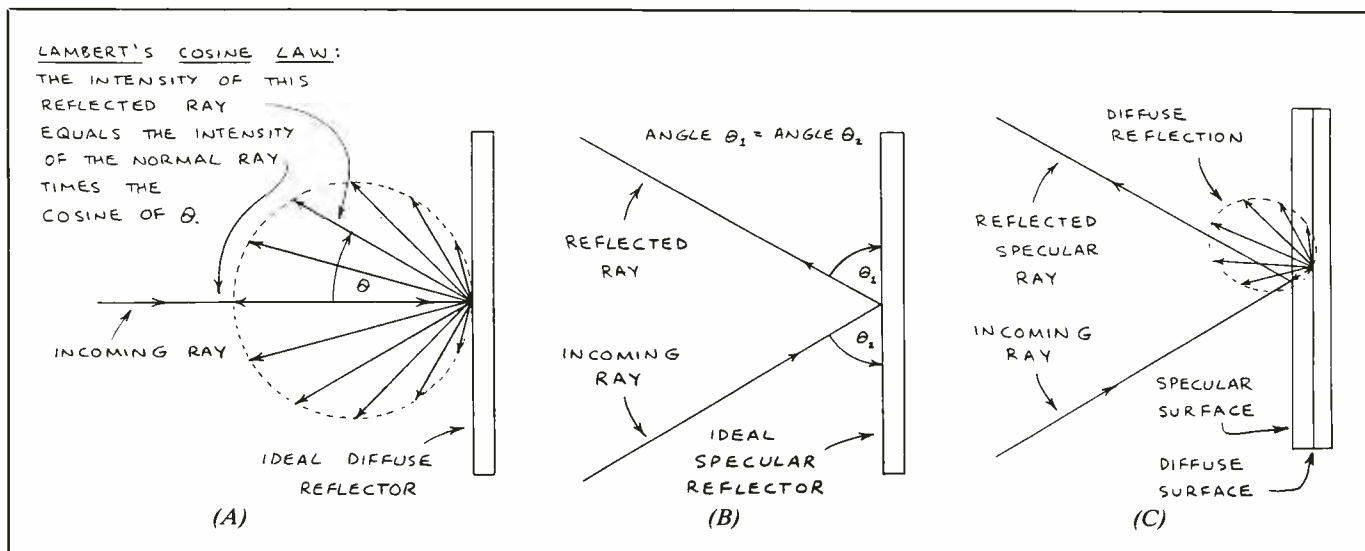

Fig. 5. Illustrating the reflection from (A) a diffuse surface, (B) a specular reflector and (C) a combination of the two.
Figure 5(A) shows how light is reflected from a perfectly diffuse reflector. The reflection of light from a perfect diffuser follows Lambert's cosine law, which holds that the intensity of a ray of light reflected from a diffuse surface varies with the cosine of the angle the ray makes with an imaginary line normal (perpendicular) to the surface of the reflector.
Figure 5(B) shows how light is reflected from a perfect specular reflector. If the surface of the specular reflector is perfectly flat, the reflected beam follows three laws:
(1) The angle of the reflected ray is equal to the angle of the oncoming ray.
(2) The oncoming and reflected rays lie in the same plane as an imaginary normal line extended perpendicularly from the surface of the reflector.
(3) The divergence or spread of the reflected beam is equal to that of the oncoming beam.
Figure 5(C) illustrates how an object can exhibit both specular and diffuse reflectance. In the real world, the reflections can be much more complicated than is shown in this simplified drawing. For example, if the specular front surface has a thin coating of dust, it alone will also produce both a specular and a diffuse reflection. Too, the diffuse reflection from the second surface can be altered in various ways as it passes through the front layer of specular reflecting material.